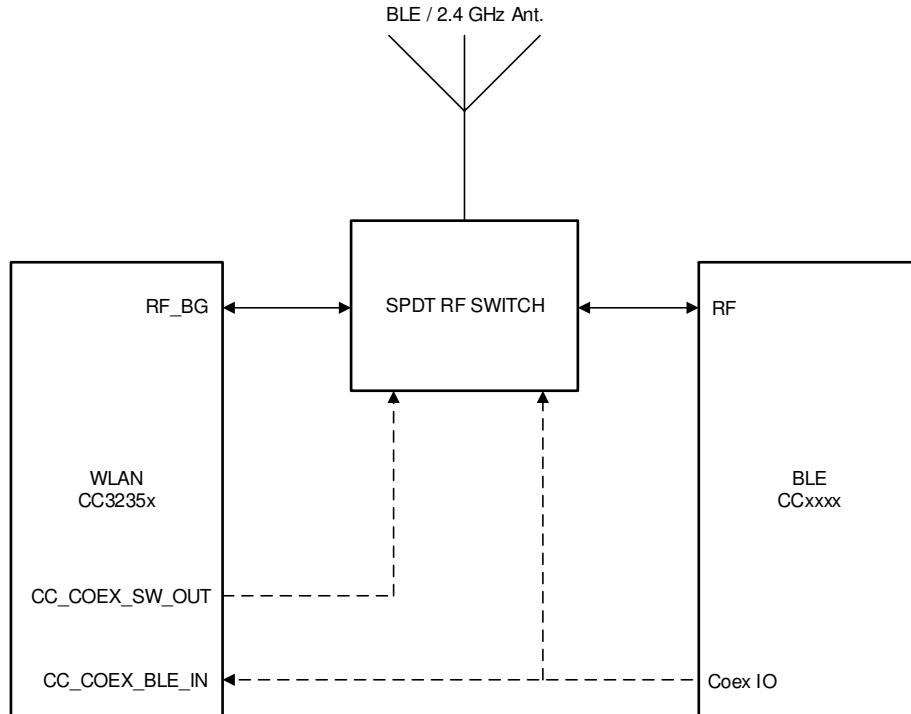

Figure 9-1. 2.4GHz, Single-Antenna Coexistence Mode Block Diagram
- 2.4GHz Wi-Fi band (see Figure 9-1)